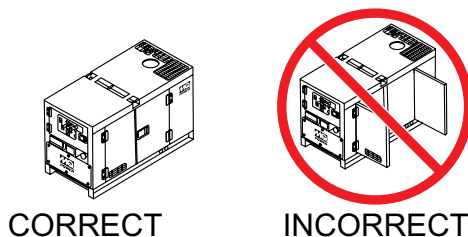

Figure 24. Engine Enclosure Doors
4. Close all engine enclosure doors (Figure 24).